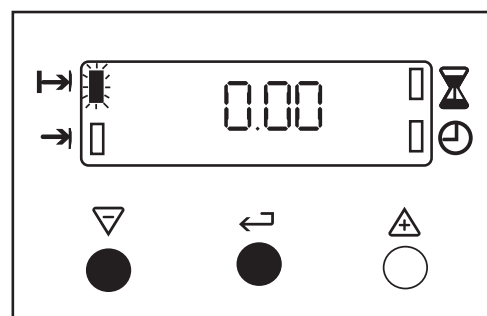

Fig.12.
- To cancel an automatic programme press the Selector Control button until the 'Cook Time' indicator neon flashes. Press the decrease control (-) until the display reads 0.00 as Fig. 12.